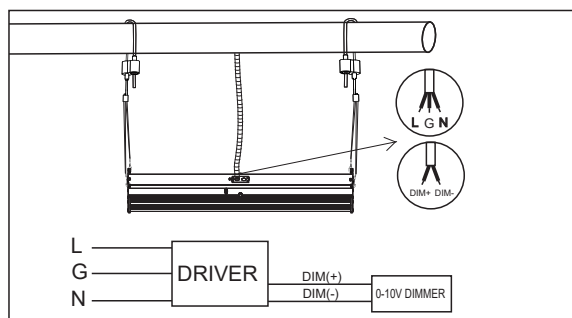

Figure 2
2. Please connect all cables and terminals according to the wiring diagram. Please pay attention to the grounding.(Figure 2)